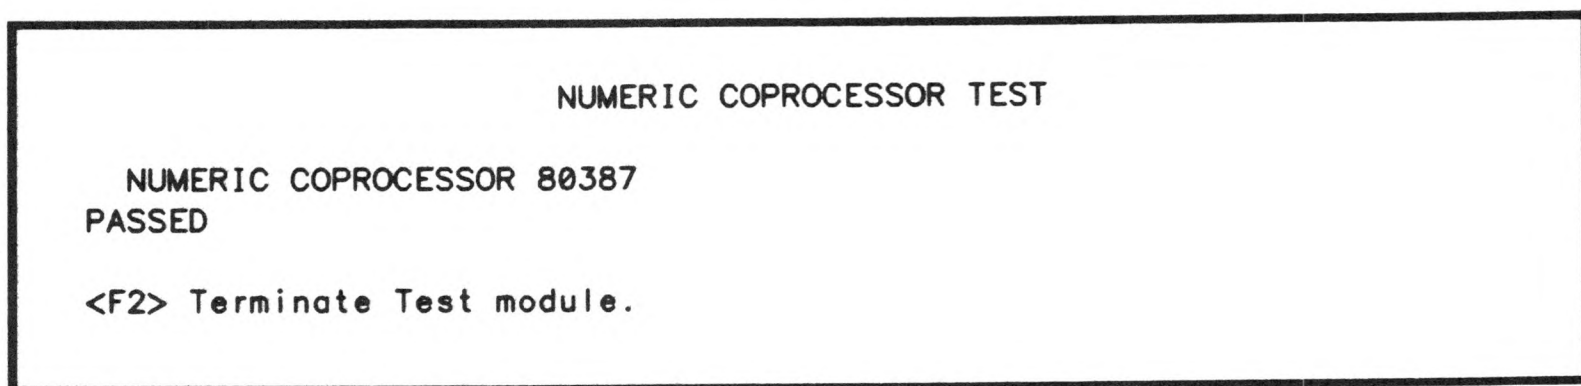

Figure 3-24. Numeric Coprocessor Test Screen
Step 2 Type 12 and then <Enter>. The results of the test are displayed as shown in Figure 3-24.